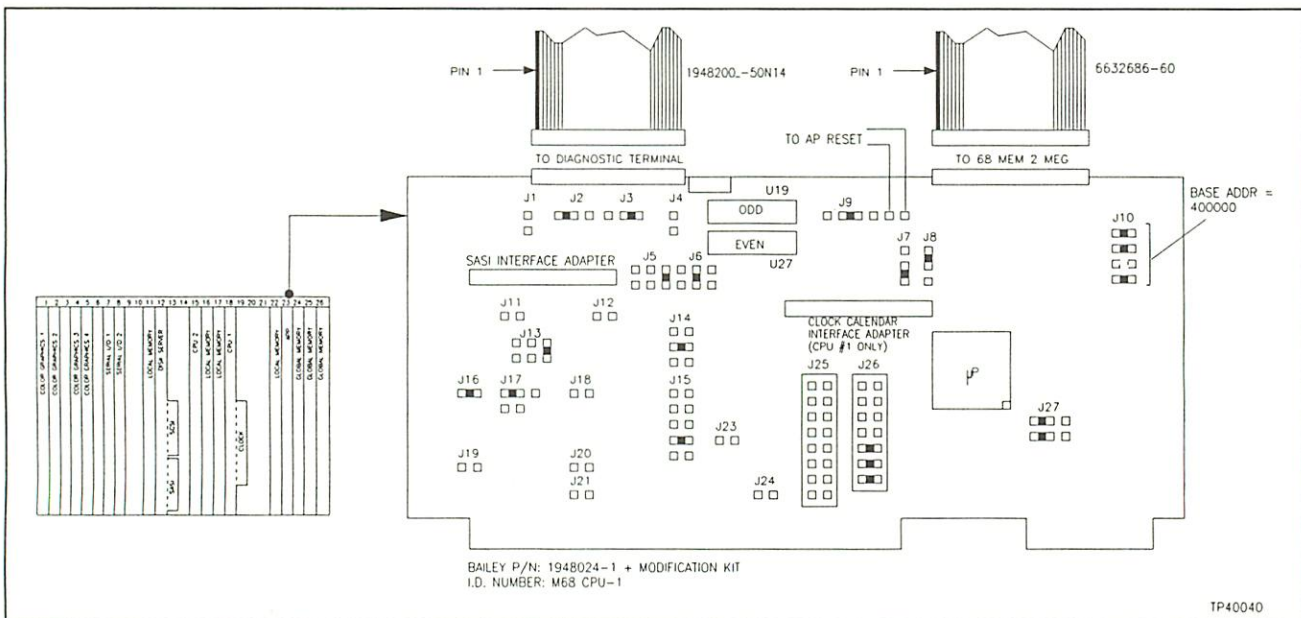

Figure 4-2. Application Processor
The application processor provides custom programming. Supported languages are C, FORTRAN and 68000 Assembly. Refer to Bailey product instruction I-E93-901-25 for further information. A maximum of two application processors can be added. The jumper settings and locations of these processor cards are shown in Figure 4-2.
2. Install jumpers from kit on locations (as specified in Figure 4-2).